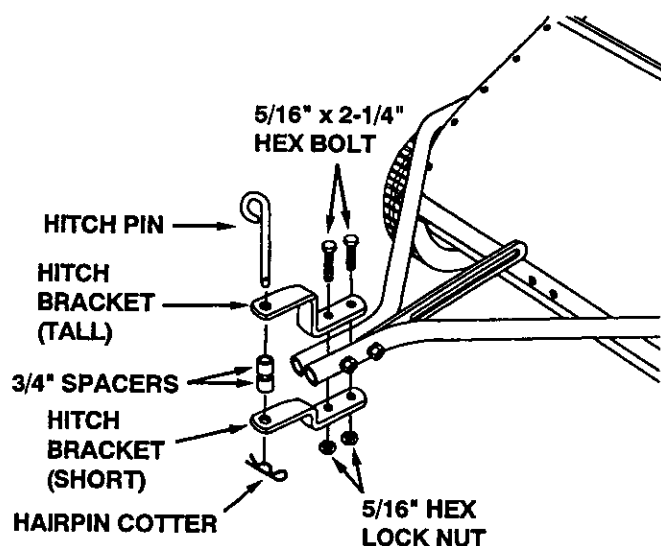

FIGURE 4
If your tractor hitch has 8" to 10" ground clearance, use the instructions below to assemble the sweeper hitch brackets. If your tractor hitch has more than 10" ground clearance, go to figure 4 on page 6.
- Assemble the tall hitch bracket on top and the short hitch bracket to the bottom of the hitch tubes as shown in figure 4. Fasten with two 5/16" x 2-1/4" hex bolts and two 5/16" hex lock nuts. The bolts should straddle the front cross bolt. **Do not tighten yet.**
- Assemble the hitch pin, two 3/4" spacers and the 1/8" hairpin cotter to the hitch brackets. See figure 4.